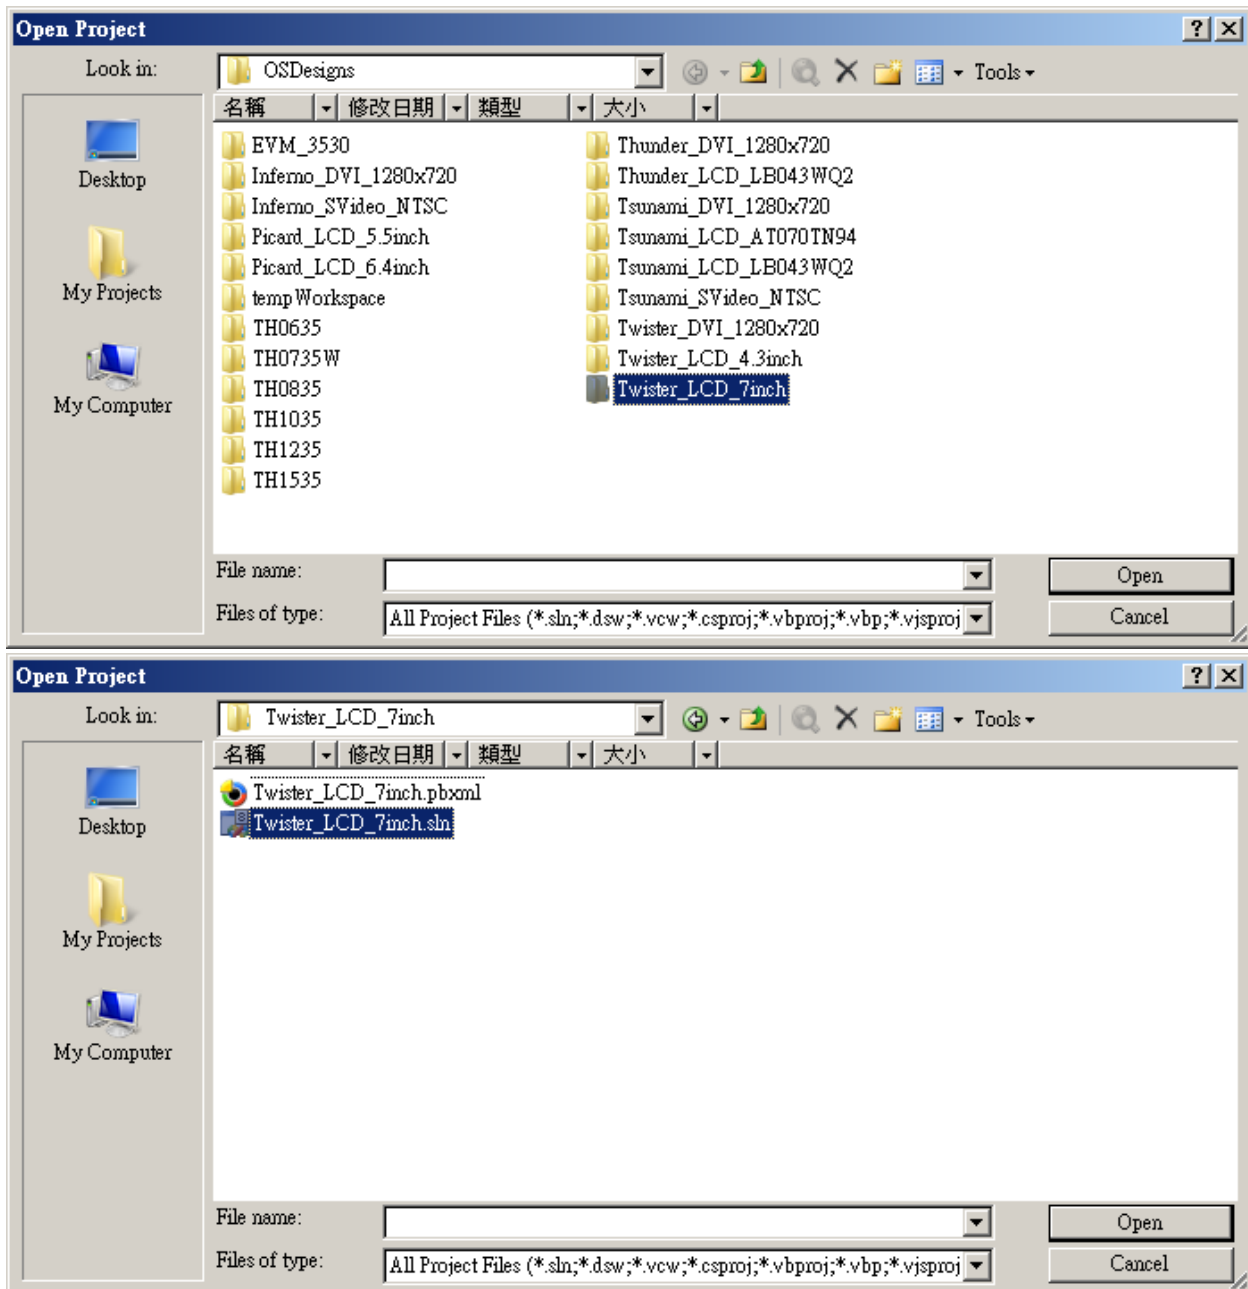

Figure 75
- Go into the folder and open the SLN-file of your HMI (As example in this manual we use “Twister_LCD_7inch”) (See Figure 75)